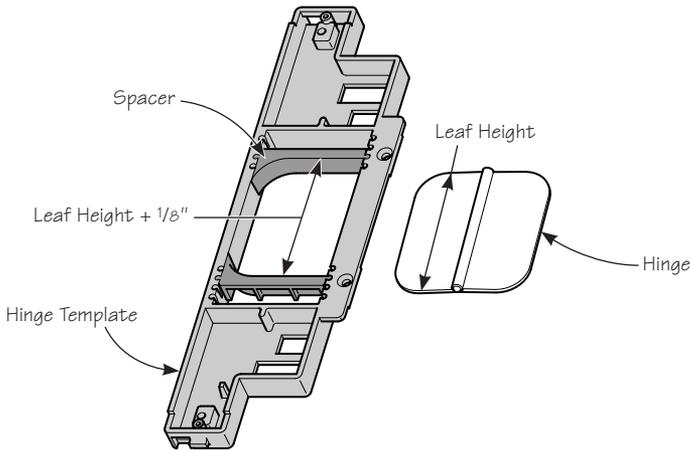

Figure 2: Aligning spacers for hinge with 5/8" radiused corners.
- a. For hinges with $\frac{5}{8}$ " radiused corners, align the spacers as shown in **Figure 2**.